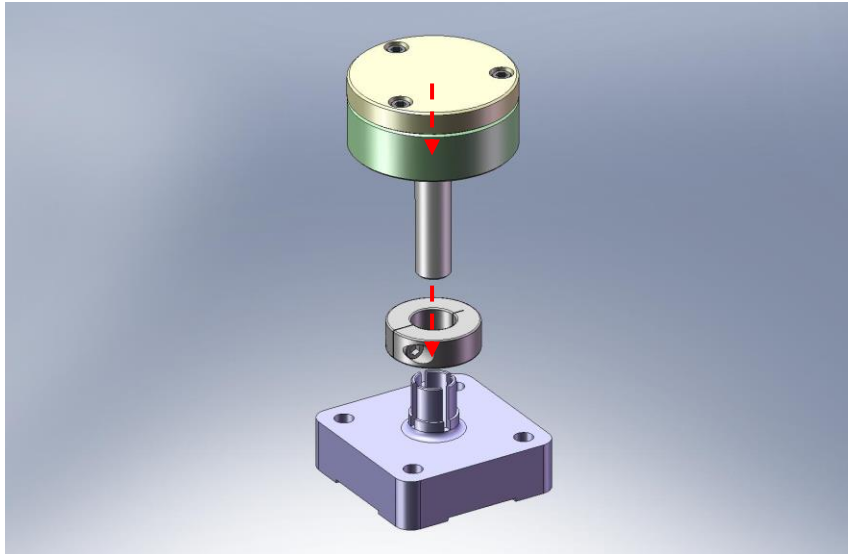

Figure 4.37. Use shaft collar to clamp Sensor Target Face Assembly to Sensor Target Mount.
- Slide a **D0900208** shaft collar with *silver-plated* screws over the collet in the **Sensor Target Mount** (D071160). Next, insert the **Sensor Target Face Assembly**, as shown in Figure 4.37.